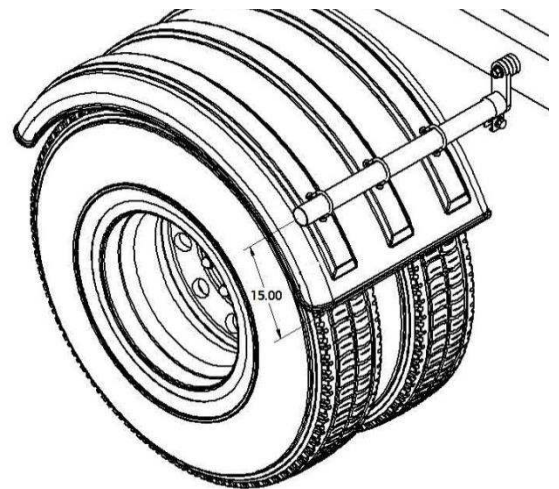

Figure 11
H. If possible position the brackets are within 15" of the bottom of the fender to avoid wind blowing the fender back into the tire (Figure 11).